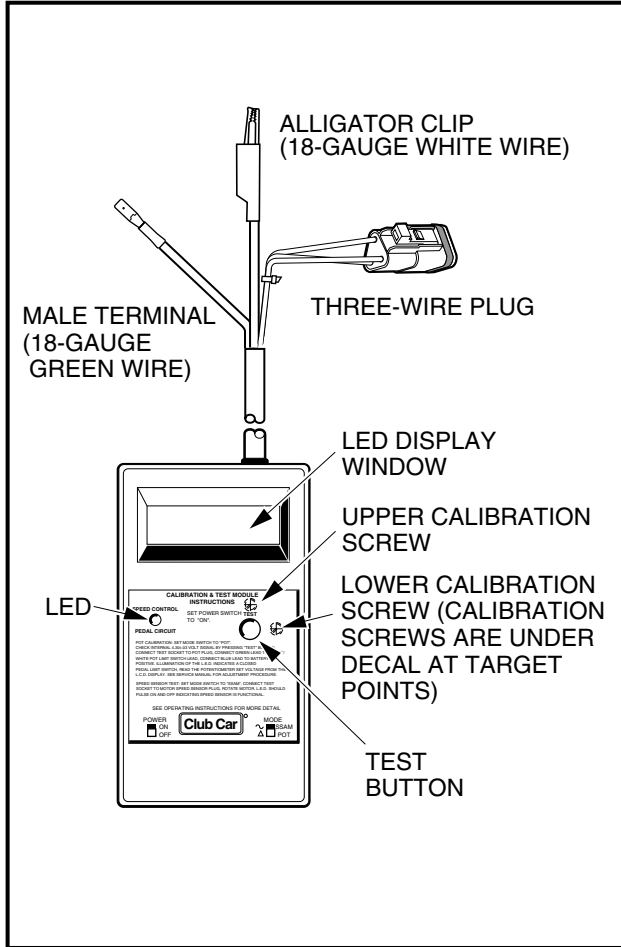
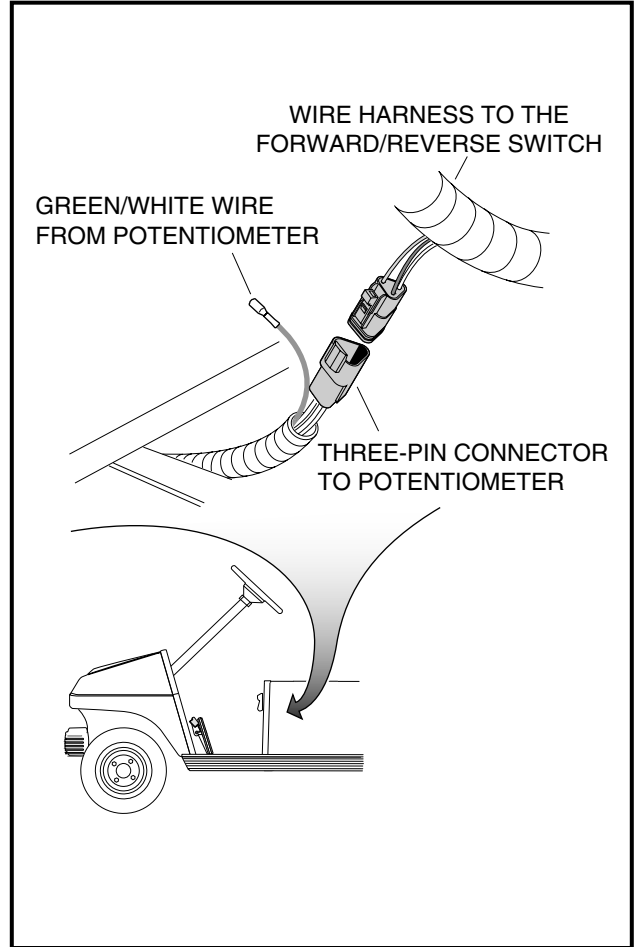

Figure 5-22 Calibration Test Module
Figure 5-23 Three Wire Connector to Potentiometer
- 5.1. Connect Calibration Test Module (CTM) (CCI P/N 101887101) (**Figure 5-22, Page 5-25**) to vehicle.
- 5.1.1. Disconnect three-pin connector to potentiometer from wire harness as shown (**Figure 5-23, Page 5-25**).
- 5.1.2. Connect the three-pin plug of the CTM to the three-pin connector from the potentiometer (**Figure 5-22, Page 5-25 and Figure 5-23, Page 5-25**). See following NOTE.
- 5.2. Disconnect the green/white wire from the potentiometer housing assembly (**Figure 5-23, Page 5-25**) at the Forward and Reverse limit switch no. 1.
- 5.3. Connect the green/white wire from the potentiometer housing to the green lead from the CTM (**Figure 5-23, Page 5-25**).